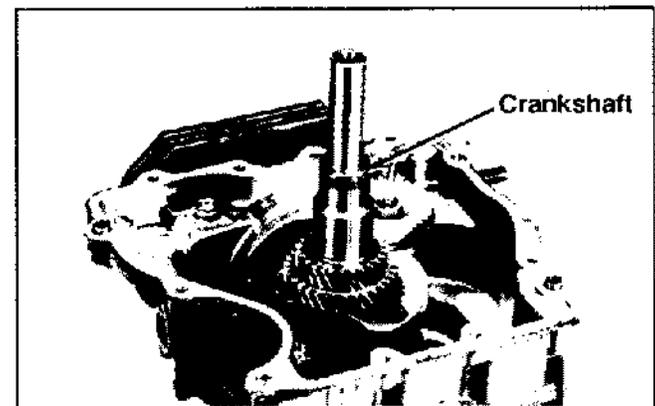

Figure 9-44. Removing Crankshaft.
2. Remove the crankshaft from the crankcase. See Figure 9-44.